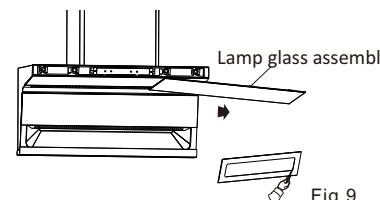

Fig.9
### Light replacement (Fig.9)
- Use a cross-head screwdriver to unscrew the screws of the fixed top glass panel, take off the glass panel, and then use the cross-head screwdriver again to unscrew the screws of the lamp glass assembly. Push it to the right to the lamp glass assembly, pull out the interlocking connection piece, and the lighting lamp can be taken out. (Fig.9).